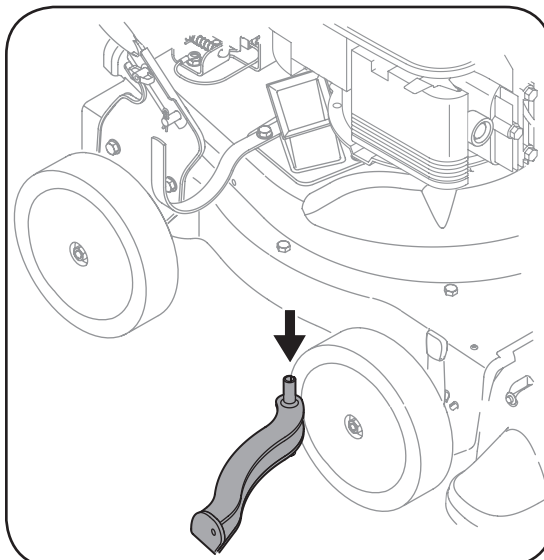

Figure 5-4
7. Remove and clean the screen by scraping or washing with water. See Figure 5-4.